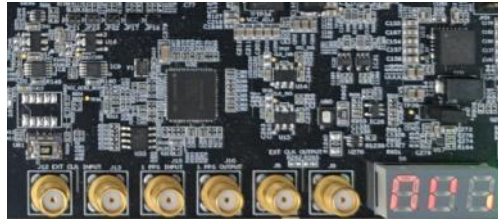

Figure 6.24. 7-Segment LED Status
- Hardware 7-Segment LED Status as shown in Figure 6.24: